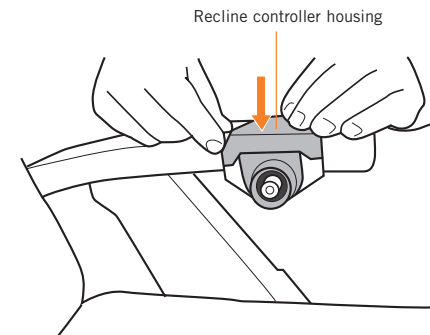

Fig.8
3. **PC-600/610:** Place the housing into position on the left-hand armrest as shown (Fig.8).